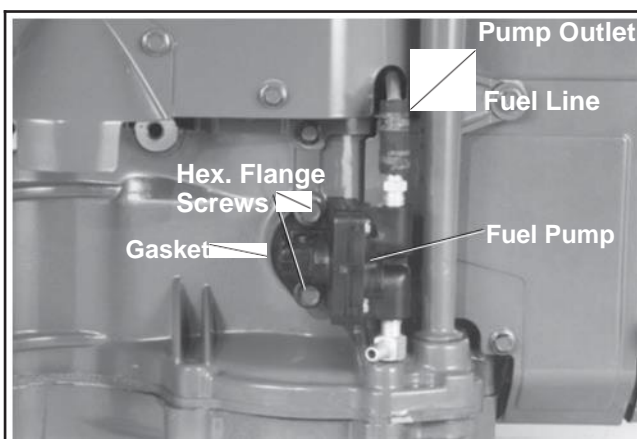

Figure 9-12. Removing Fuel Pump.
1. Disconnect the fuel lines from the outlet and inlet fittings of the fuel pump. See Figure 9-12.